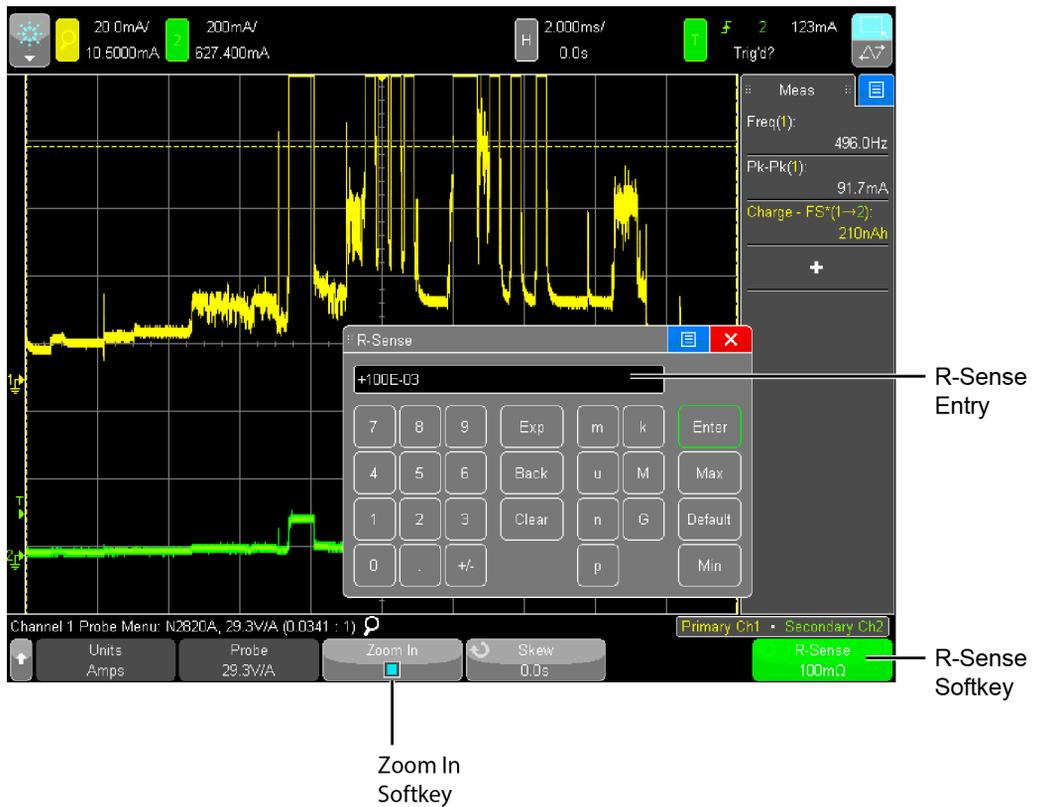

Figure 10 R-Sense Entry Box
- 3 If you are using an N2821A probe, press the **Zoom-In** softkey to toggle between zoomed-in (blue selection box on softkey) or zoomed-out (clear selection box) for the channel. This softkey is shown at the bottom of Figure 10 on page 32.
- 4 If you are using an N2825A user-defined head, which uses a DUT-mounted  $R_{\text{SENSE}}$  resistor, press the **R-Sense** softkey, shown in Figure 10 on page 32. Then, enter the resistance of the  $R_{\text{SENSE}}$  resistor that you are using.